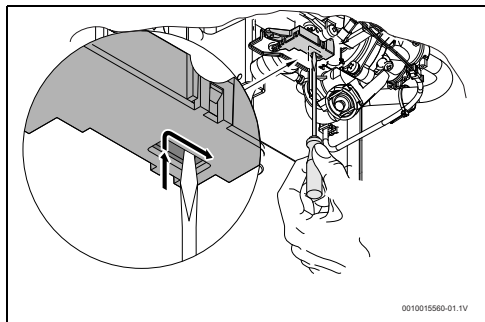

Fig. 28 *Rearme do micro-interruptor*
- Posicionar o micro-interruptor conforme Fig 28.